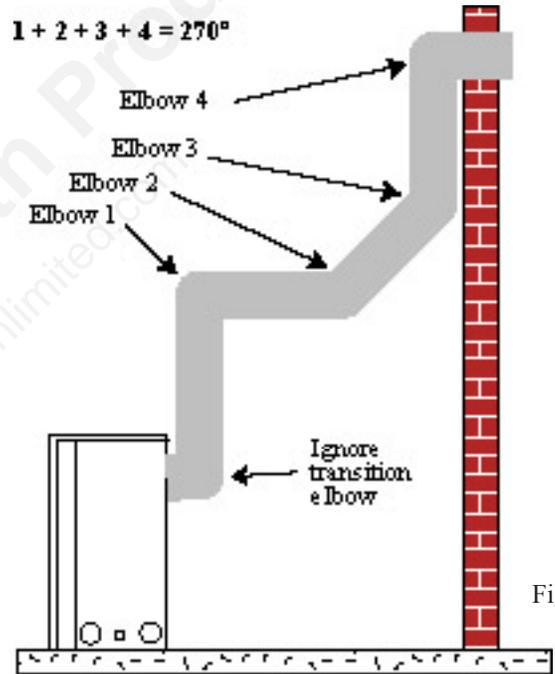
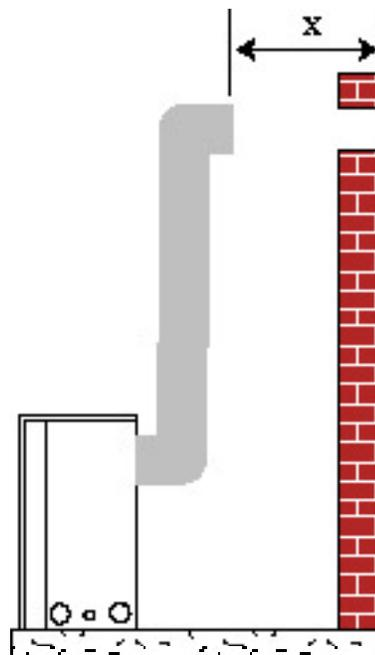

Fig. 21
Fig. 25
- The maximum number of 45° elbows permitted per side wall installation is two (2). These elbows can be installed in either the vertical or horizontal run.
- The maximum number of elbow degrees in a system is 270° (See Fig. 21).
Example: In Figure 21
Measure the horizontal length requirement including a 2" (50 mm) overlap, i.e. from the elbow to the outside wall face plus 2" (50 mm) (or the distance required if installing a second 90° elbow. (Fig. 21). Use appropriate length of pipe sections - telescopic or fixed - and install. The sections which go through the wall are packaged with the starter kit, and can be cut to suit if necessary. (Fig. 25).